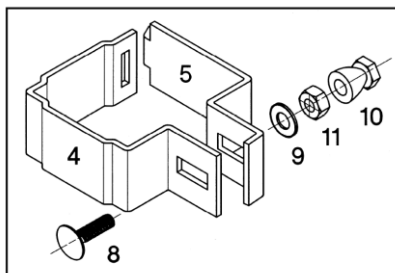

Figure 1
- End post accessory set (figure 1)